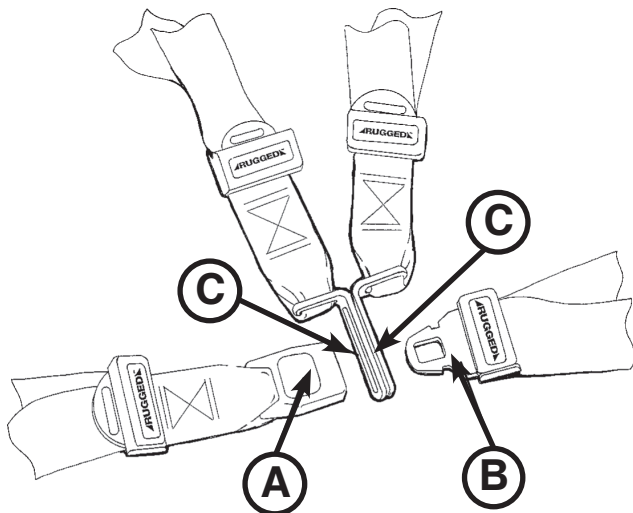

Figure 21.1: Buckling the Safety Restraints
- **To open the restraint**, press the red button (A) on the front of the buckle “receiver”. This releases the buckle latch plate (B) which can then be pulled out of the receiver as shown in Figure 21.1.
- **To close the restraint**, push the latch plate into the receiver until a “click” is heard. When fastening the chest restraint ensure that the latch plate passes through both links (C) on the shoulder strap as shown in Figure 21.1.